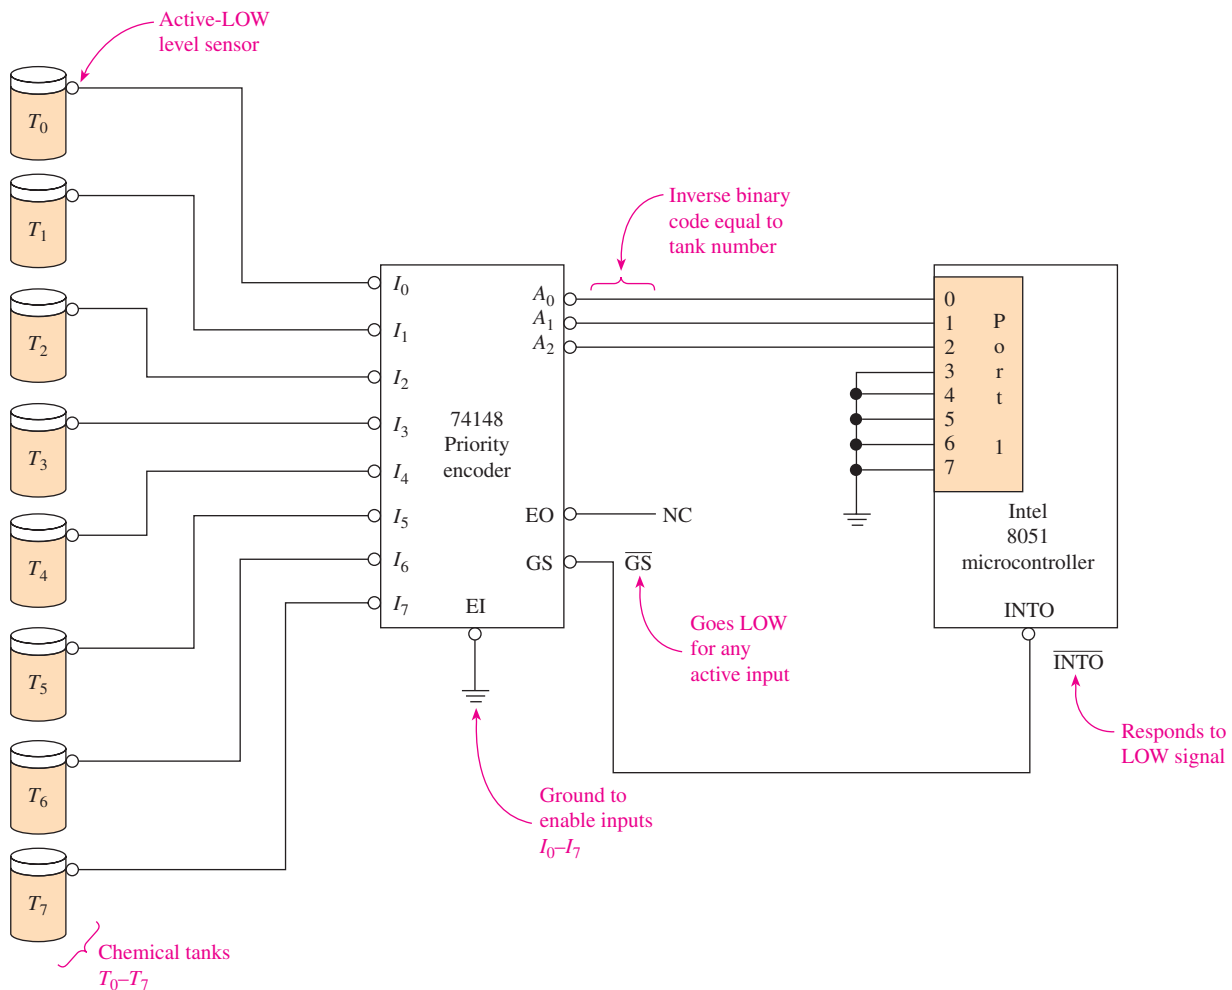

Figure 8-59 Using a 74148 to encode an active alarm to be monitored by a microcontroller.
This design application uses a 74148 encoder to monitor the fluid level of eight chemical tanks. If any level exceeds a predetermined height, a sensor outputs a LOW level to the input of the encoder. The encoder encodes the active input into a 3-bit binary code to be read by a **microcontroller**. This way, the microcontroller needs to use only three input lines to monitor eight separate points. Figure 8-59 shows the circuit connections.
- 8-22. In Figure 8-59, how is the microcontroller notified of a high fluid level at one of the chemical tanks?
- 8-23. The circuit of Figure 8-59 would work properly but have inverted outputs at A_0 – A_2 if the level sensor outputs were active-HIGH instead of active-LOW. True or false?